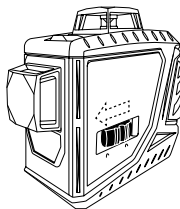
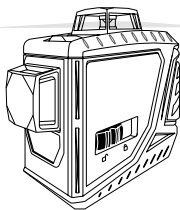

FIGURE 3
FIGURE 4
- To turn the instrument on, slide the power / locking switch to the "unlocked" position (Fig.3). Self levelling will commence and the horizontal beam will activate (Fig.4).